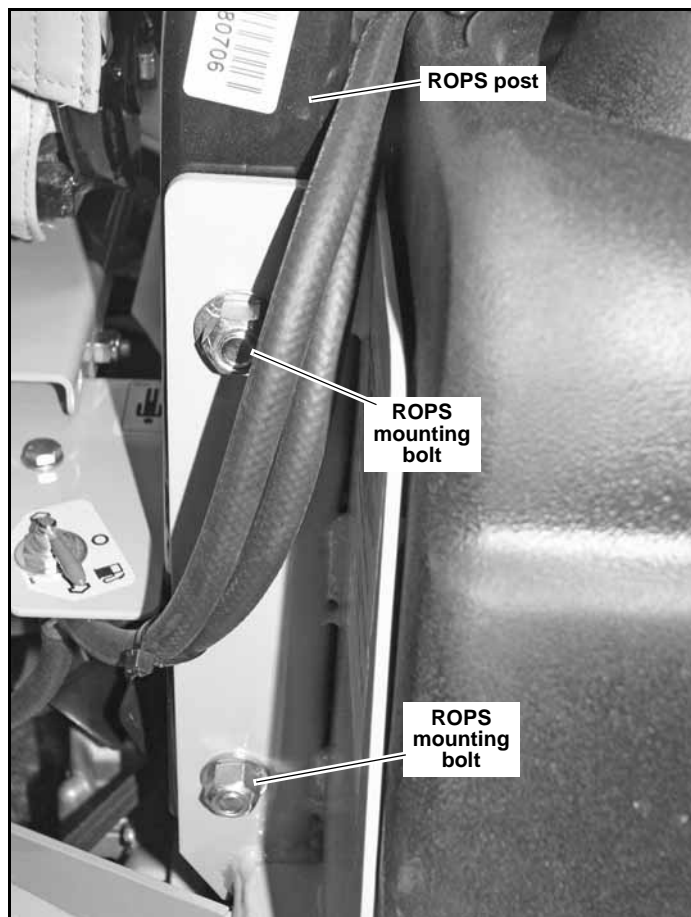

Figure 3-8
1. Check the torque of the ROPS mounting bolts. Tighten the bolts to the correct torques as shown below if necessary. Figure 3-8